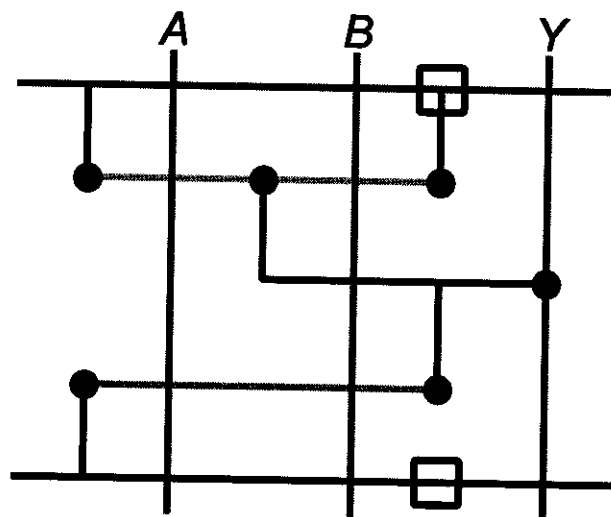

Figure 2 (A colour version of this figure can be found on a sheet accompanying this paper)
- (b) Figure 2 below is a stick diagram for a 2 input NAND gate which is to be realized in $0.3\mu\text{m}$ CMOS (based on the sample design rules provided):
ELEC3025 Figure 2